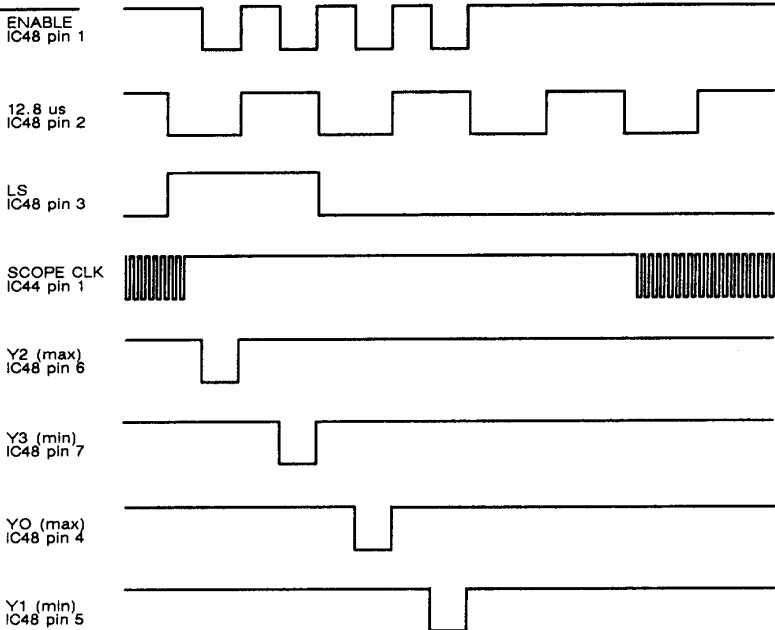

Fig. 5-3-2 Display counters timing waveform diagram for board AB2/2
- (15) With an input connected to the AF INPUT socket, check the operation of decoder IC48a by reference to the timing diagram shown in Fig. 5-3-2.
- (16) Set the input to 10 kHz and select a slow timebase. Trigger an oscilloscope from the falling edge of the Y1 pulse on IC48 pin 5 and display the SCOPE VIDEO signal on TP6. Check that the signal starts high, goes low and then returns high, all within the line scan period of 64  $\mu$ s.
(17) Vary the amplitude of the input and check that the duration of the low period increases and decreases with amplitude.